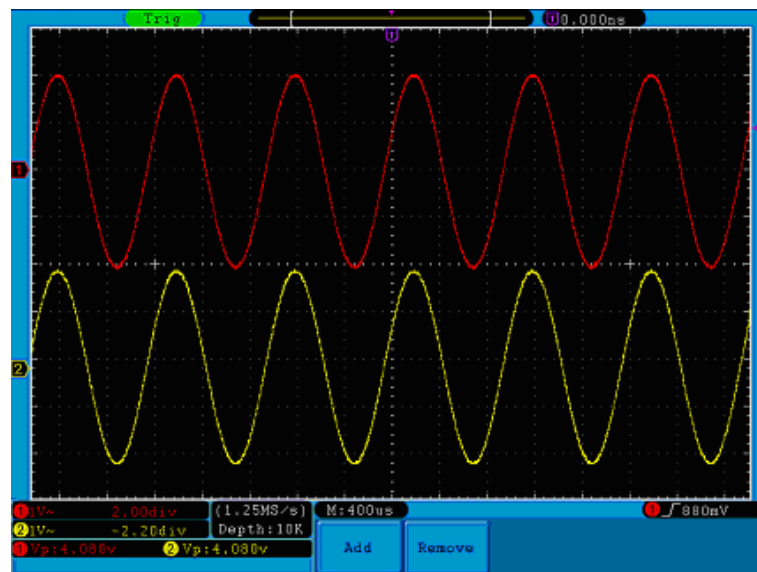

Figure 81. Waveform of Gain Measurement.
- 8 Read the peak-to-peak voltages of Channel 1 and Channel 2 from the bottom left of the screen (See Figure 81.).